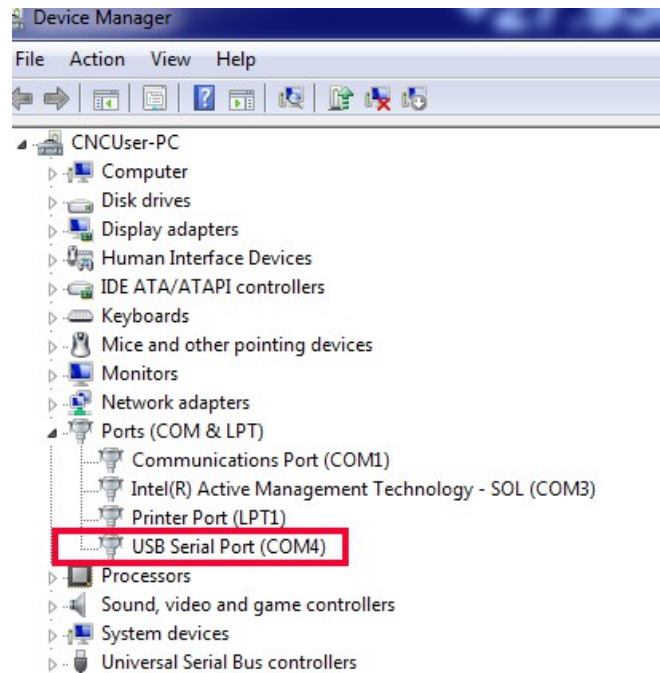

Figure 3
11. Click the triangle to the left of **Ports (COM & LPT)**. There will be a **USB Serial Port (COMx)** as shown in Figure 3 where x is the number of the COM port that is being used. Jot down the COM number as it will be used later in the setup process.